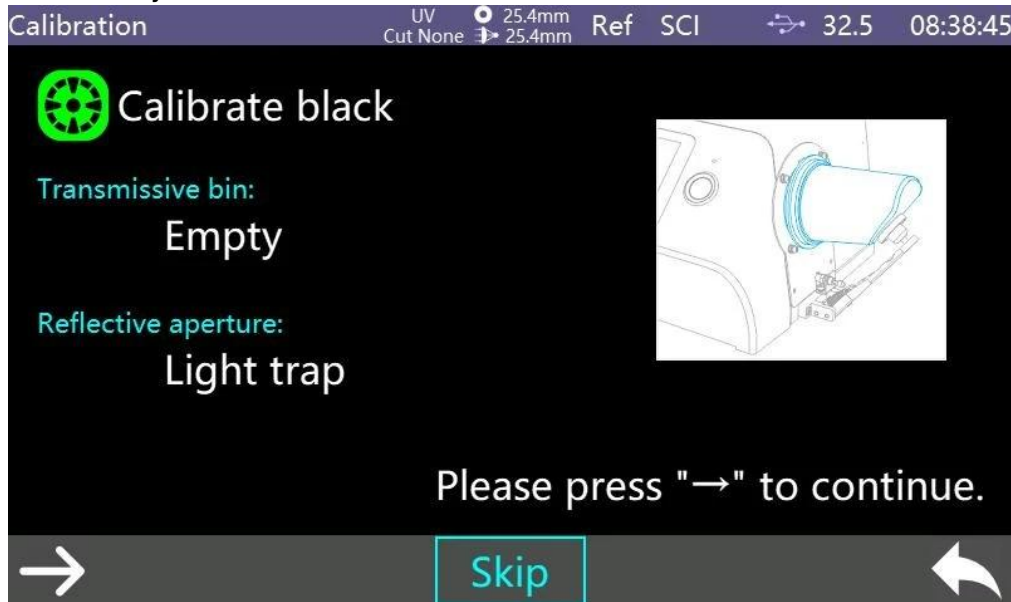

Figure 5
3. Click  to enter Reflective Black Calibration interface as shown in Figure 5. Place the black cavity well according to the warning, then press the test key to start black calibration, or click  to quit the calibration.